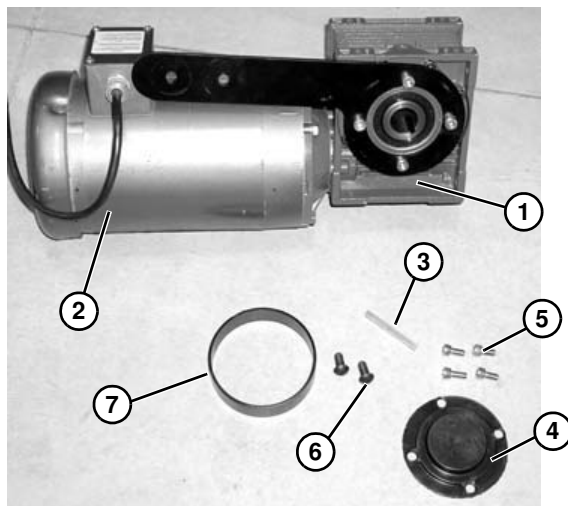

Figure 38
1. Typical components (**Figure 38**).